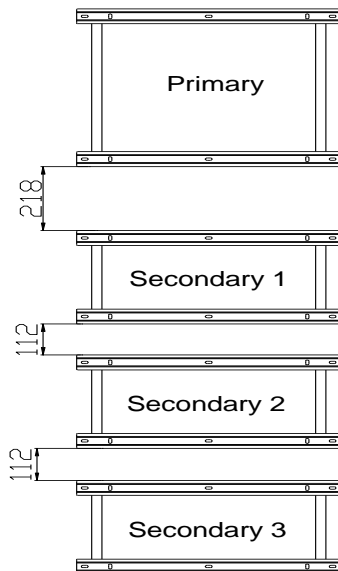

Fig. 3.12 Distances among mounting brackets Unit: mm
**Note:** The recommended installation distances among the AS1 and the B1 mounting brackets can be found in Fig. 3.12.